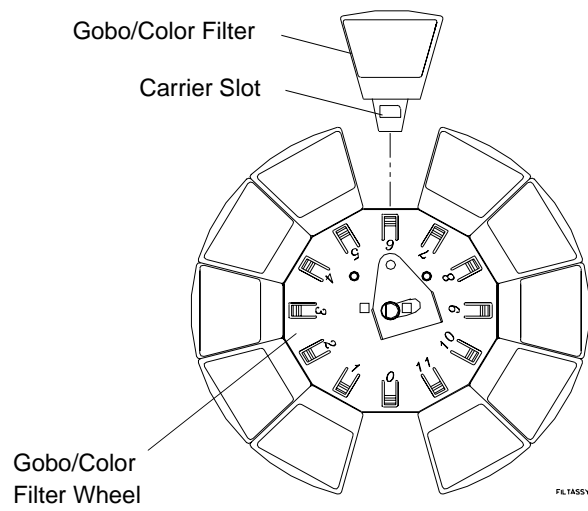

Figure 2-6: Standard Gobo/Color Filter Replacement
Note: In some cases it is easier to slide bulkhead partially out of head assembly to access gobos/filters. To do this, use #2 Phillips screwdriver to turn captive screw one-quarter turn and slide bulkhead upward. **Figure 2-6.**
Step 4. Using fingers, pull gobo/filter out of wheel. **Figure 2-6.**